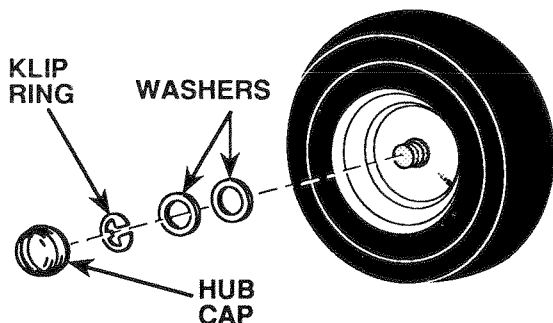

FIGURE 31
- Removing Front Wheel for tire repair (Fig. 31)
- Remove Hub Cap and (5) Hub Bolts to allow Wheel removal.